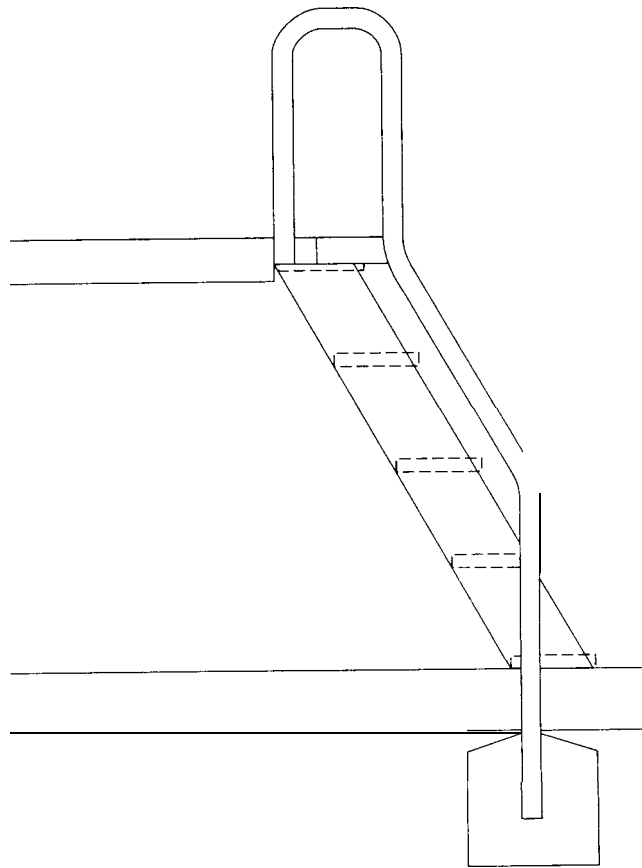

Figure 10-2. Step Ladder.
b. Step Ladder Step ladders have a flat horizontal crosspiece used as a foot support (fig 10-2).